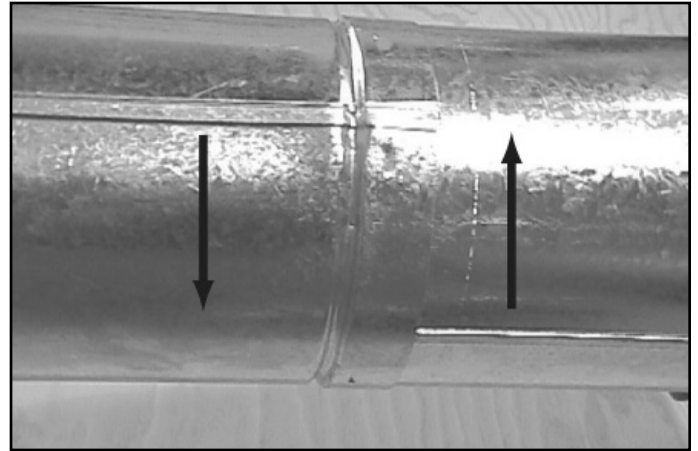

Figure 10.6 Rotate Seams for Disassembly
- Rotate either section (see Figure 10.6) so the seams on both pipe sections are aligned as shown in Figure 10.7.